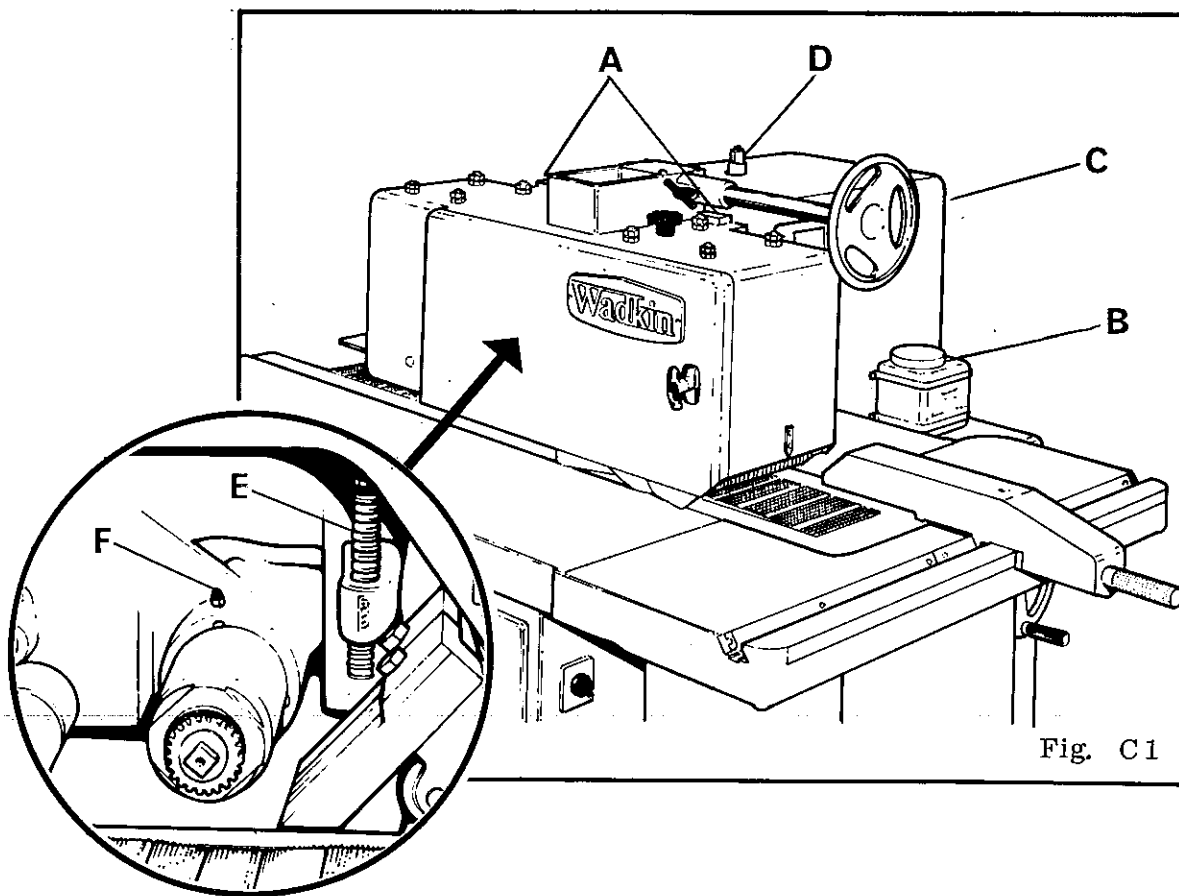

Fig. C1
1. Check oil level in tank. Fig. C1. point B.